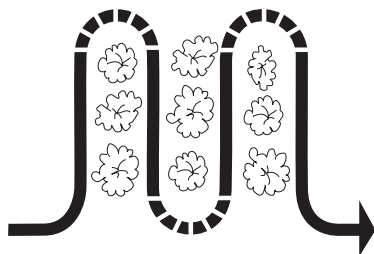

Figure 21
- When cultivating, use very shallow depth settings to prevent injury to plants whose roots often grow close to the surface. If needed, lift up on the handlebars slightly to prevent the tines from digging too deeply. Cultivating on a regular basis not only eliminates weeds, it also loosens and aerates the soil for better moisture absorption and faster plant growth. See Figure 21.
- Remove the hex washer screw (1/4-20 x .500) and flat washer (.28 x .74 x .063) from the left side of the belt cover and the hex washer screw (1/4-20 x .500) from the right side of the belt cover. Remove the belt cover. See Figure 21.